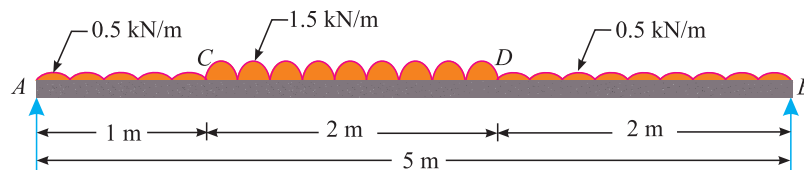

Fig. 13.28
4. Draw shear force and bending moment diagrams for a simply supported beam, loaded as shown in Fig. 13.28.